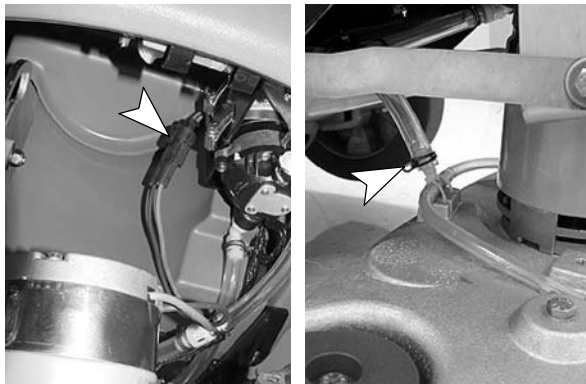

FIG. 68
2. Unplug the brush motor wire connector and disconnect the solution feed hose (Figure 68).